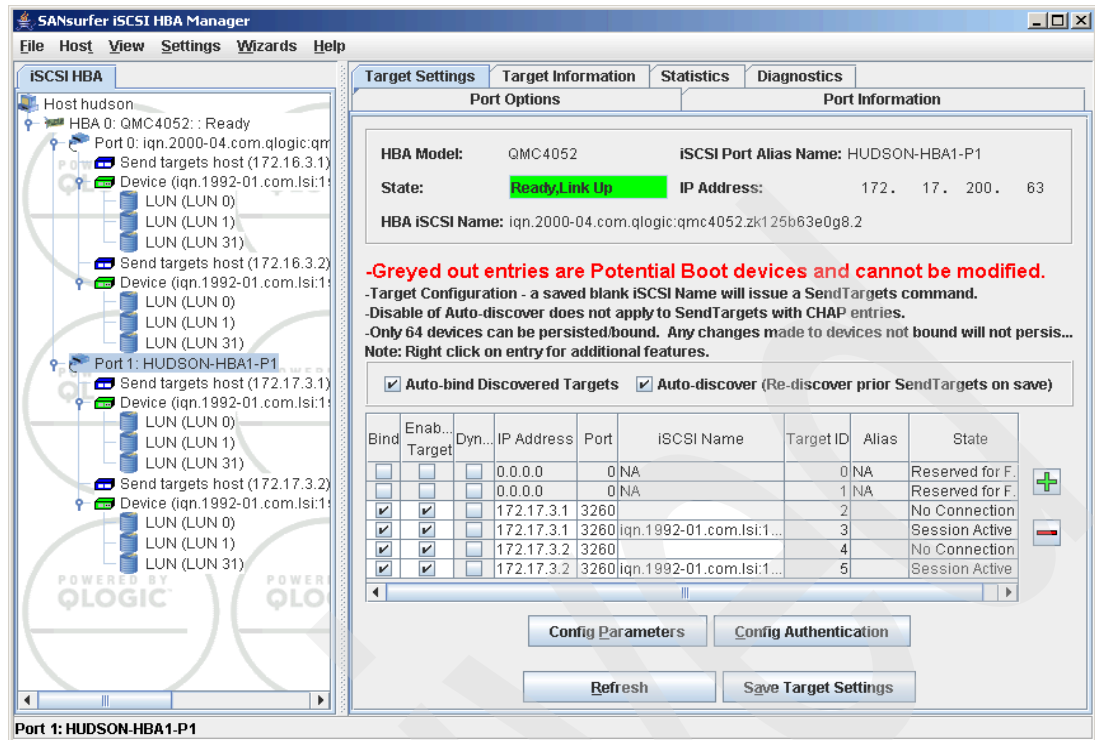

Figure 21-61 SANsurfer - All targets reconnected
18. After all sessions are active (as shown in Figure 21-61 on page 523), the applications that access these logical drives can be re-started.